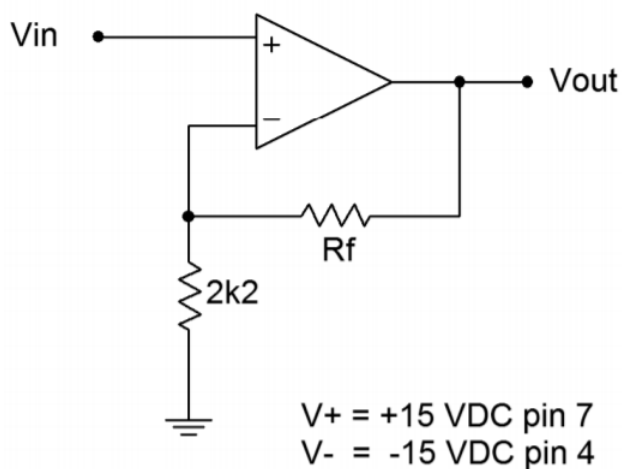

Figure 9.5.1
1. Calculate the voltage gains for the amplifier of Figure 9.5.1 for the R_f values specified, and record them in Table 9.7.1.
3. Assemble the circuit of Figure 9.5.1 using the 22k Ω resistor and the slowest op amp.